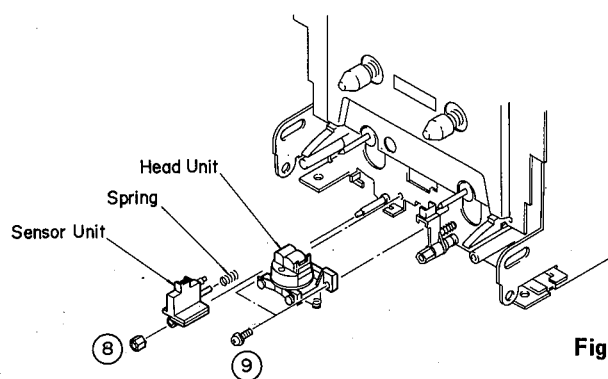

Fig. 6
- Straighten the bent lug and remove the lead wire in Fig. 6
- Remove hexagonal nut (8) in Fig. 6. (Tape Guide Sensor unit)
- Remove 2 screws (9) in Fig. 6 and then remove the Head Unit.